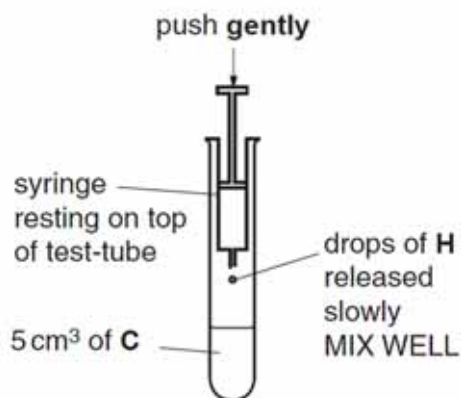

Fig. 1.1
- 5 Use a 6 cm³ syringe, containing 3 cm³ of **H**, to put drops of **H** into **C** as shown in Fig. 1.1. Mix well as you add **H**, until the end-point is reached. You may need to fill the syringe again.